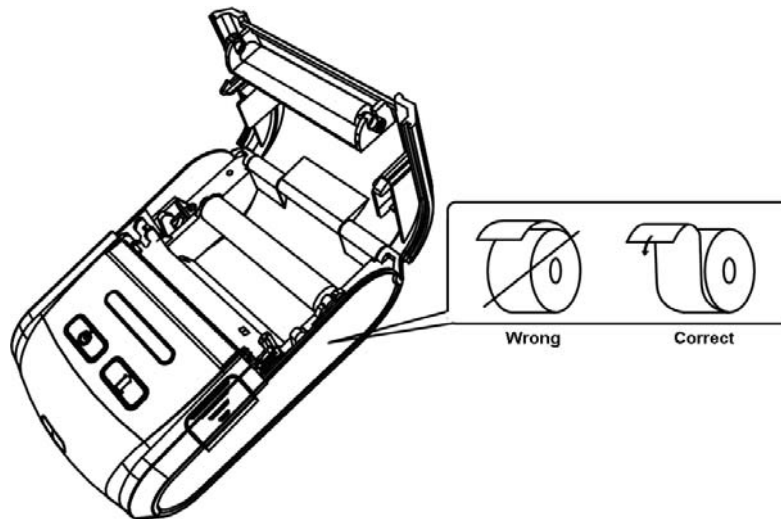

Figure 2-4: Correct paper roll direction for installation
2. Put a new paper roll (Width: 58mm, diameter of the roll: < 40mm) into the paper roll box, notice the direction of the paper roll should be correct, as Figure 2-4 shows, wrong direction of the paper roll will cause the printer cannot print out anything.